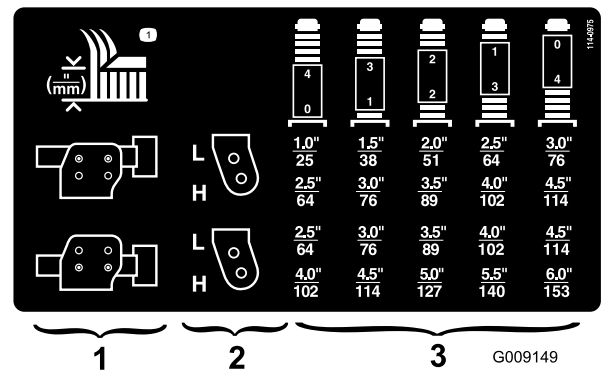

Figure 23
2. Position the castor wheel axles in the same holes in all castor forks. Refer to the chart (Figure 23) to determine the correct holes for the setting.
Refer to the chart (Figure 23) to determine the combinations of spacers for the setting: